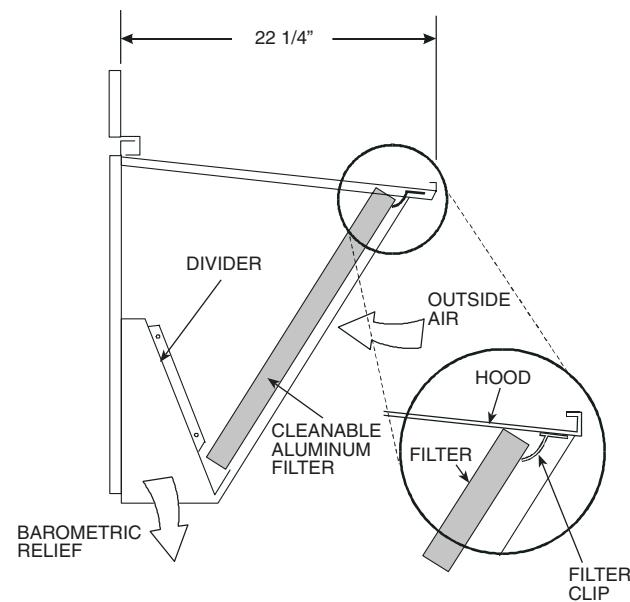

Fig. 22 — Filter Installation
7. Open the filter clips which are located underneath the hood top. Insert the aluminum filter into the bottom filter rack (hood divider). Push the filter into position past the open filter clips. Close the filter clips to lock the filter into place. See Fig. 22.